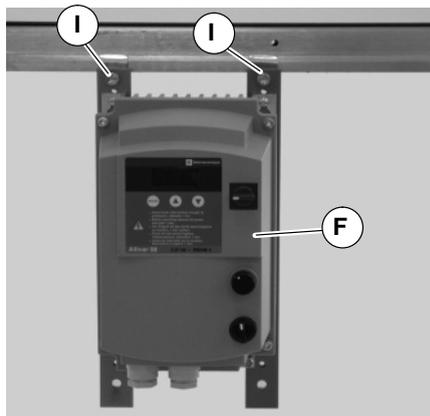

Figure 8
3. Attach controller (F of Figure 8) to conveyor with screws (I).